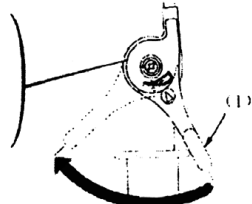

Fig. 12 (1) Throttle lever
- 4) Move the throttle lever slightly to the left. (Fig. 12)